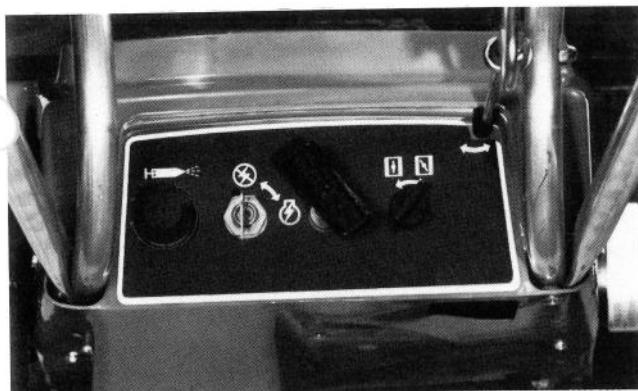

Figure 7
2. Rotate choke clockwise (Fig. 7).
3. Put thumb on center of primer so hole is covered and sealed (Fig. 7). Depending upon temperature at which the machine is stored, push the primer one to four times. For temperatures above -7° C, use one or two primes; below -7° C, use three or four primes; for extremely cold temperatures below -23° C, use five to six primes.
4. Turn ignition key to ON (Fig. 7).
5. To start S200 Recoil Start, put one hand on the lower handle to steady the snowblower. Next grasp recoil starter handle (Fig. 7) and pull vigorously to start engine. If engine does not start after four pulls, prime engine again as described and pull recoil starter handle four more times. Repeat this procedure until engine starts.
1. Turn ignition key to OFF (Fig. 7).